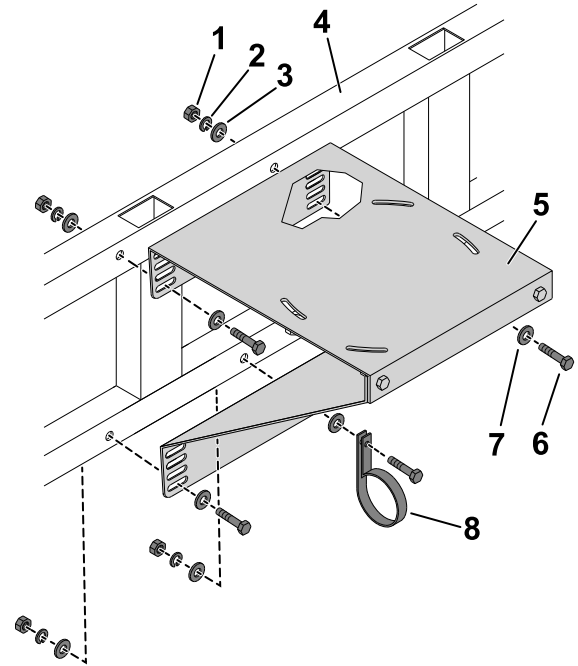

Figure 14
- Use the 6 bolts (3/8 x 1 inch), washers, and nuts to secure the conveyor to the side of the bed (Figure 14).